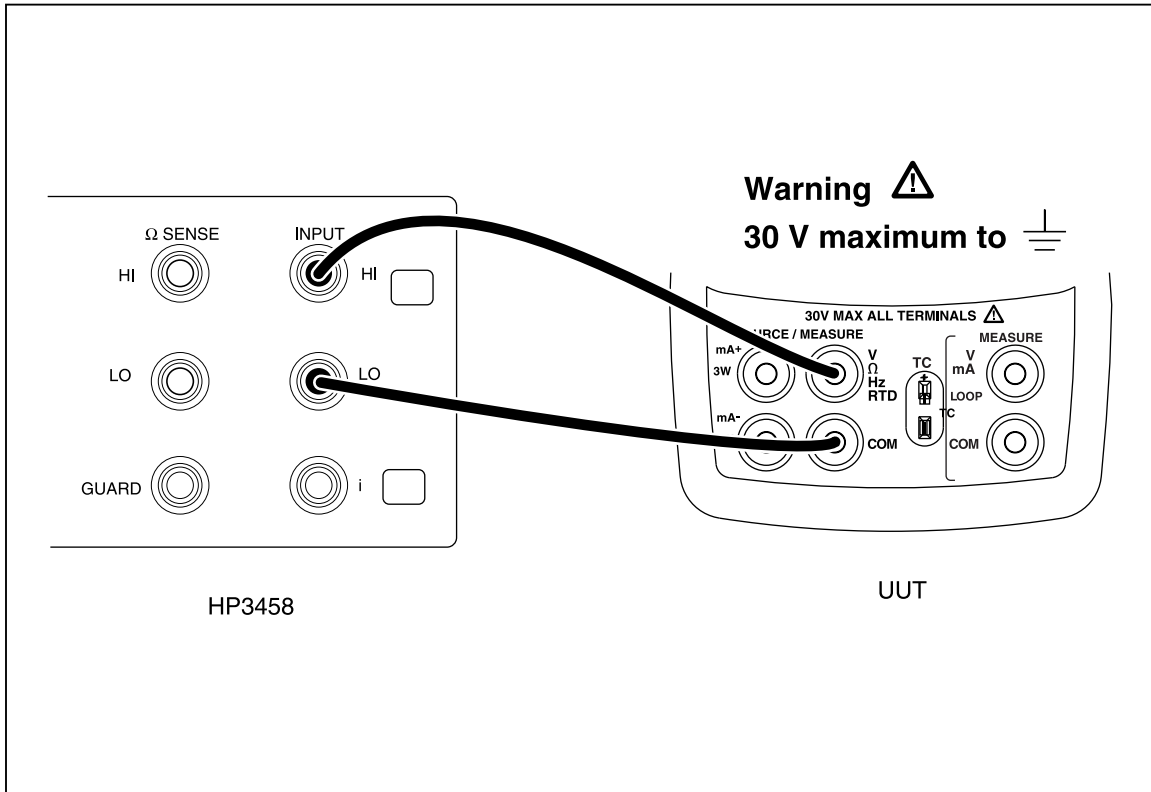

Figure 7. Lower Display Frequency Source Test Connections
4. Make the connections shown in Figure 7.
3. Connect the UUT to the HP 3458A as shown in Figure 7.